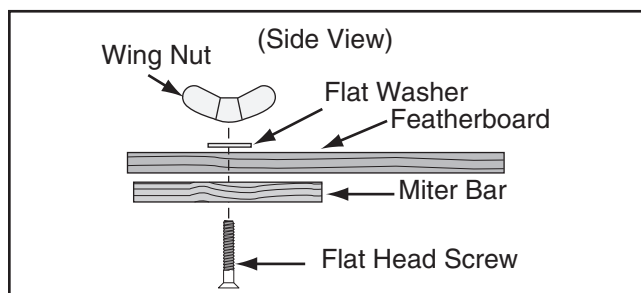

Figure 83. Assembling miter slot featherboard components.
8. Assemble the miter bar and featherboard with a $\frac{1}{4}$ "-20 x flat head screw, flat washer, and a wing nut or a star knob (see **Figure 83**). Congratulations! Your featherboard is complete.